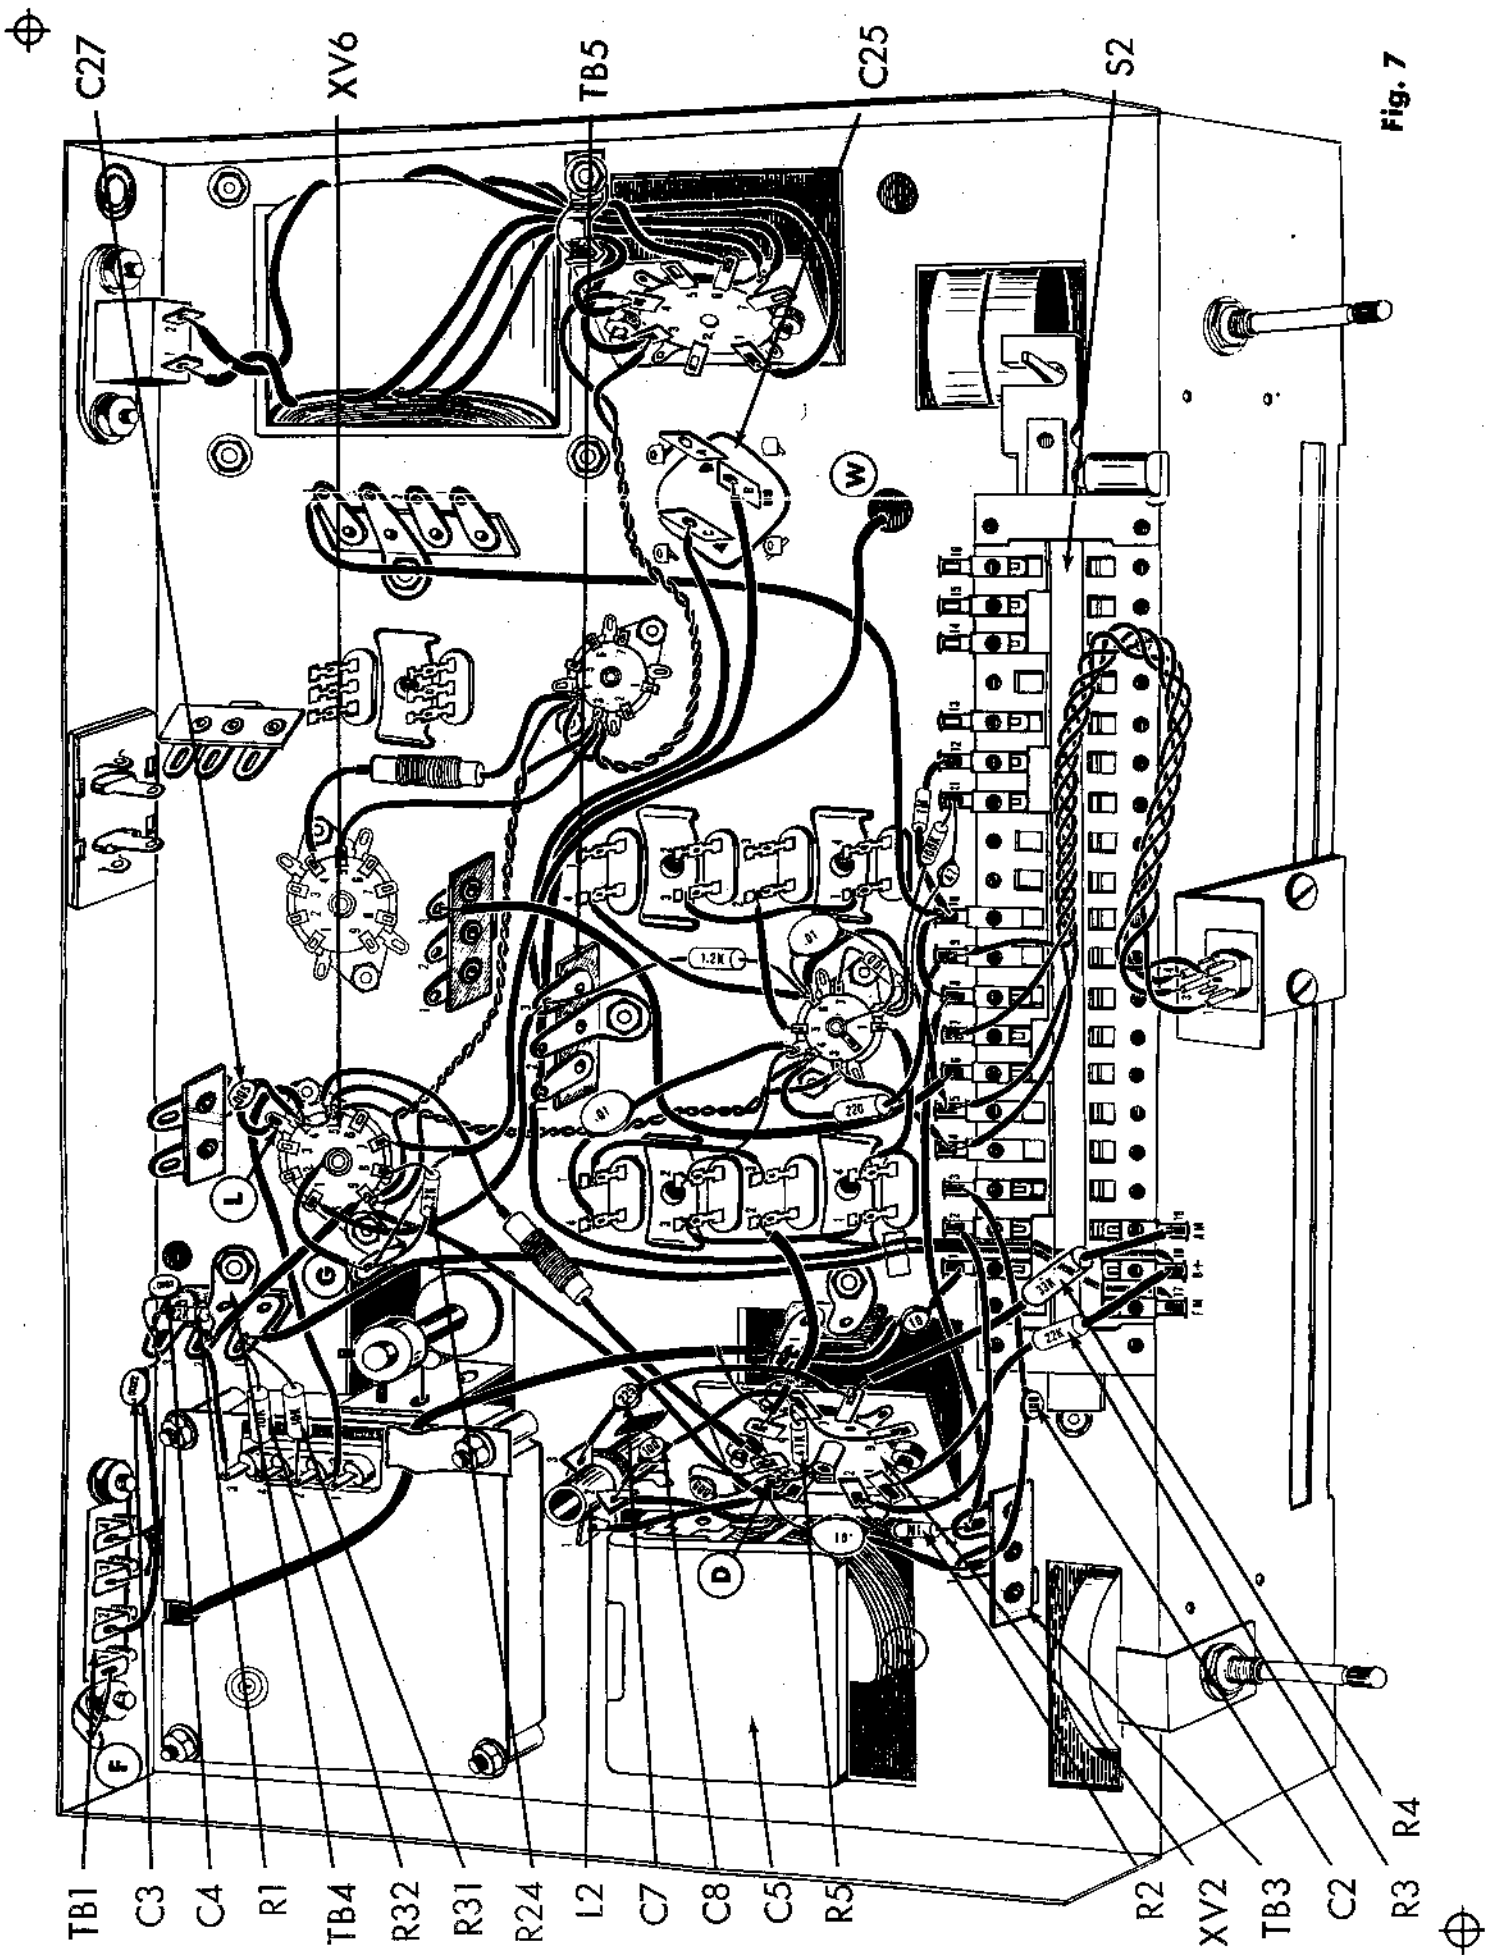

Fig. 7
- () 1. Fig. 7. Bend XV2-3 to the center lug on XV2.
- () 2. Fig. 7. Cut both leads on a 47K (yellow, violet, orange, silver) resistor, R5, to 1/2". Connect from XV2-7 (C) to the center lug C on XV2.
- () 3. Fig. 7. Connect a 3/4" piece of bare wire from the center lug (S3) on XV2 to ground lug "D" (S4) on XV2.
- () 4. Fig. 7. Cut both leads on a 100 mfd disc capacitor, C8, to 3/4". Cover each lead with a 1/2" piece of spaghetti. Connect from L2-2 (S2) to XV2-7 (S3).
- () 5. Fig. 7. Cut both leads on a 225 mfd disc capacitor, C7, to 1". Cover each lead with a 3/4" piece of spaghetti. Connect from L2-3 (S1) to XV2-8 (C).
- () 6. Fig. 7. Cut both leads on a 1M (brown, black, green, silver) resistor, R2, to 1/2". Connect from XV2-2 (C) to TB3-2 (S2).
- () 7. Fig. 7. Cut both leads on a 100 mfd disc capacitor, C2, to 1 1/4". Cover each lead with a 1" piece of spaghetti. Connect from TB3-1 (C) to S2-3 (S1).
- () 8. Fig. 7. Cut both leads on a 22K (red, red, orange, silver) 1 watt resistor, R3, to 1". Cover each lead with a 3/4" piece of spaghetti. Connect from XV2-1 (S2) to S2-18 (S2).
- () 9. Fig. 7. Cut both leads on a 33K (orange, orange, orange, silver) 1 watt resistor, R4, to 1". Cover each lead with a 3/4" piece of spaghetti. Connect from XV2-8 (S2) to S2-19 (S1).
- () 10. Fig. 7. Connect one end of a 3" piece of grey wire to TB3-1 (S2). Push the other end through rectangular hole "Z" next to the variable capacitor C5 to the top of the chassis.
- () 11. Fig. 7. Connect a 3" piece of white wire from XV2-2 (S2) to S2-2 (S1).
- () 12. Fig. 7. Cut all leads on two 10K (brown, black, orange, silver) 1 watt resistors, R31 and R32, to 1/2". Connect R31 from TB4-1 (C) to lug #2 (S1) on the FM Front End Assembly. Connect R32 from TB4-1 (S3) to lug #4 (S1) on the FM Front End Assembly. Do not use too much heat or it will melt the insulation on the FM Front End Assembly.
- () 13. Fig. 7. Connect a 1 3/4" piece of brown wire from TB4-2 (C) to lug #3 (S1) on the FM Front End Assembly. Do not use too much heat or it will melt the insulation on the FM Front End Assembly.
- () 14. Fig. 7. Connect a 3/4" piece of bare wire from TB1-1 (S1) to ground lug "F" (S1).
- () 15. Fig. 7. Strip back 1/2" from both ends of a 2" piece of 300Ω twin lead. Connect one lead from one end to TB1-3 (S1) and the other lead from the same end to TB1-4 (S1). Without twisting the lead, push the remainder of the lead through hole "Y".
- () 16. Fig. 7. On a .0022mfd (2.2K or 2000mfd) disc capacitor, C3, cut one lead to 1 1/2" and the second lead to 1". Cover the 1 1/2" lead with a 1 1/4" piece of spaghetti and connect to TB1-2 (S1). Connect the second lead to TB4-3 (C). Note that capacitor leads do not touch any metal component or screw.
- () 17. Fig. 7. Cut both leads on a 22K (red, red, orange, silver) resistor, R1, to 1/2". Connect from TB4-2 (C) to TB4-3 (C).
- () 18. Fig. 7. Cut both leads on a .0022mfd (2.2K or 2200mfd) disc capacitor, C4, to 1/2". Connect from TB4-2 (S4) to TB4-3 (C).
- () 19. Fig. 7. Connect a 4" piece of red wire from XV6-1 (S1) to TB5-3 (C).
- () 20. Fig. 7. Connect a 5" piece of red wire from TB5-1 (C) to C25-B (C).
- () 21. Fig. 7. Connect a 4" piece of red wire from TB5-3 (C) to C25-C (C).
- () 22. Fig. 7. Cut both leads on a 2.2K (red, red, silver) resistor, R24, to 1/2". Connect from XV6-8 (S1) to ground lug "G" (C) at XV6.
- () 23. Fig. 7. Connect a 1 1/4" piece of black wire from the center post on XV6 (S1) to ground lug "G" (C) on XV6.
- () 24. Fig. 7. Cut both leads on a .005 mfd (5K or 5000mfd) disc capacitor, C27, to 1/2". Connect from XV6-4 (S3) to ground lug "L" (S1) on XV6.
- () 25. Fig. 7. On one end of a 9" piece of shielded cable, strip the outer insulation back 3/4". Twist the shield strands together. Strip off 1/4" of the insulation from the inner conductor. Connect the inner conductor to XV6-7 (S1) and the outer shield to ground lug "G" (S3).